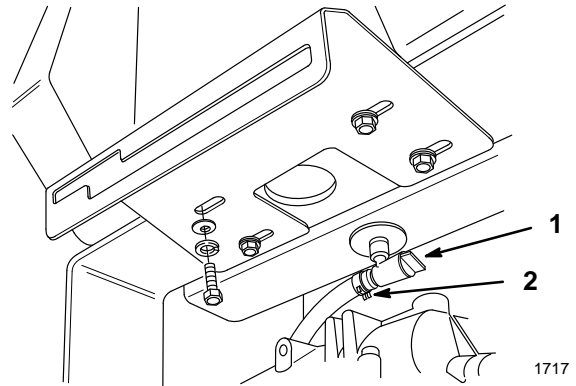

Figure 28
2. Close fuel shut-off valve at fuel tank (Fig. 28).
3. Squeeze the ends of the hose clamp together and slide it up the fuel line away from valve (Fig. 28).
4. Pull the fuel line off the valve (Fig. 28). Open fuel shut-off valve and allow gasoline to drain into a gas can or drain pan.
6. Open fuel shut-off valve at fuel tank (Fig. 28).